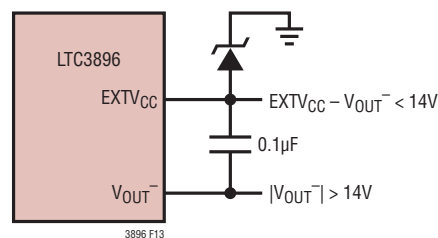

Figure 13. Using a Zener Diode Between $EXTV_{CC}$ and Ground
4. $EXTV_{CC}$ connected to ground through an external Zener diode. If the output voltage is more negative than -14V , a Zener diode can be used to drop the necessary voltage between ground and $EXTV_{CC}$ such that $EXTV_{CC}$ with respect to V_{OUT^-} remains below 14V (Figure 13). In this configuration, a bypass capacitor from $EXTV_{CC}$ to V_{OUT^-} of at least 0.1 μF is recommended. An optional resistor between $EXTV_{CC}$ and V_{OUT^-} can be inserted to ensure adequate bias current through the Zener diode.